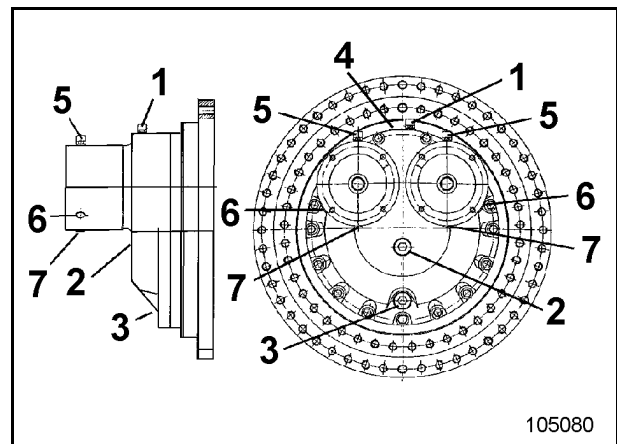

Fig. 3-116:
- Unscrew control plug (2, Fig. 3-116:).
- Unscrew checking screw (6, Fig. 3-116:).
- Screw checking plug (6) back in place.